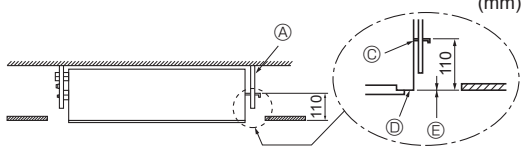

Fig. 2-9
5. Tighten all the nuts. (Fig. 2-9)
① Suspension bolt (3/8" or M10)
② Clear plastic tubing
③ Underside of bracket
④ Secure front panel here.
⑤ Make sure these surfaces are flush with each other (0 - 3 mm).